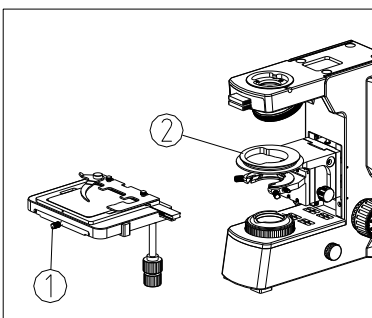

Fig.10
- (1) Fully loosen the lock-screw ① on the stage. (See Fig. 10)
- (2) From a rear area of the rounded hole center on the bracket, carefully ring the two “V” buttons on the bottom of the stage into the “V” rounded groove ②, then screw down the lock screw ①.